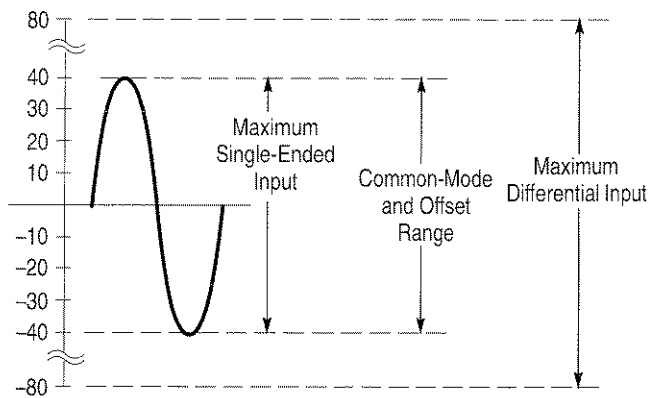

Figure 8: Input and Offset Range for X 0.1 Gain
The amount of differential, common-mode, and offset range depends on the gain setting. Figures 8 through 11 beginning on page 15 show the common-mode, differential, and offset range for each gain setting of the preamplifier.
2. Preset the **GAIN** switch of the preamplifier and the volts/division switch of the oscilloscope to the appropriate settings based on the amount of offset you expect to measure. See Figures 8 through 11. (Select a lower gain setting if you are unsure of the amount of the offset.)